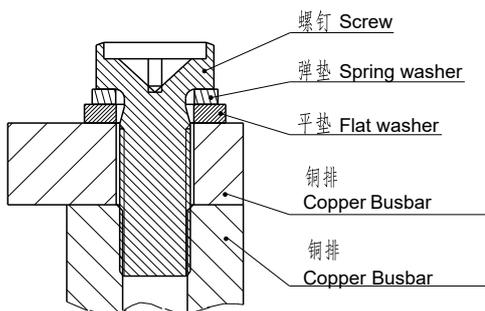

图1(Fig1)
- 当产品使用1个及多个导电铜排连接时，请确保导电铜排与触点端面紧密贴合（多个铜排需确保大电流的导电铜排最贴近触点端面，小电流的导电铜排其次），然后是平垫圈、弹簧垫圈、螺母。不正确的连接顺序可能造成严重过热，参考下图1：
When the product is connected with one or more conductive copper bars, please ensure that the conductive busbars closely fit the contact terminal surface (The conductive copper bars with high current must be closest to the contact terminal surface if there are multiple copper bars and then conductive busbars with low current), followed by flat washers, spring washers and screws.Incorrect connection sequence perhaps give rise to severe overheating. Refer to Figure 1 as follows: